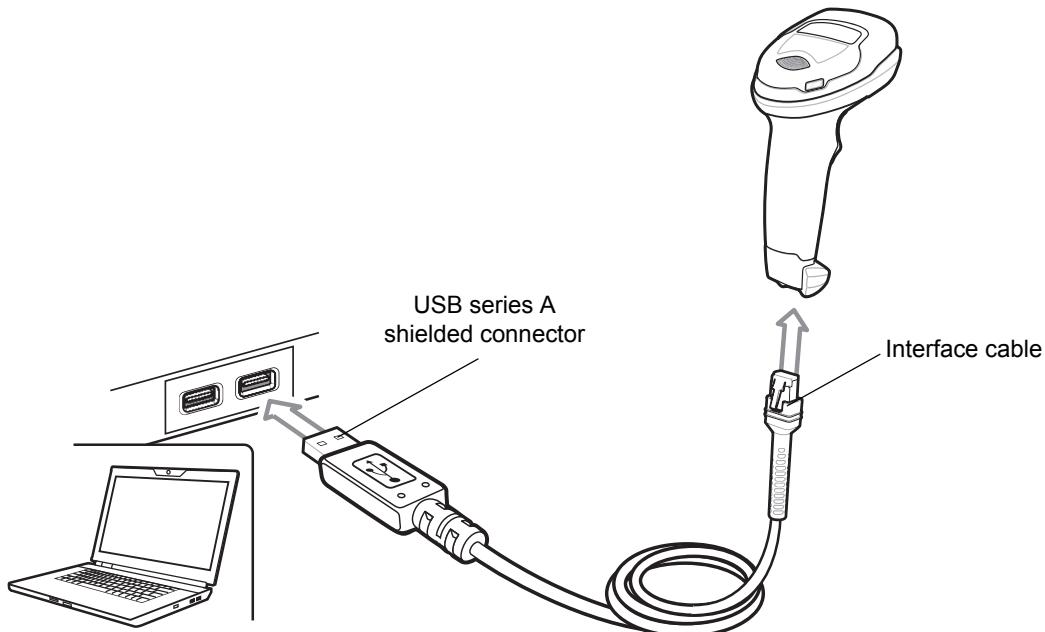

Figure 6-1 *USB Connection.*
**NOTE** Interface cables vary depending on configuration. The connectors illustrated in Figure 6-1 are examples only. The connectors may be different than those illustrated, but the steps to connect the digital scanner are the same.